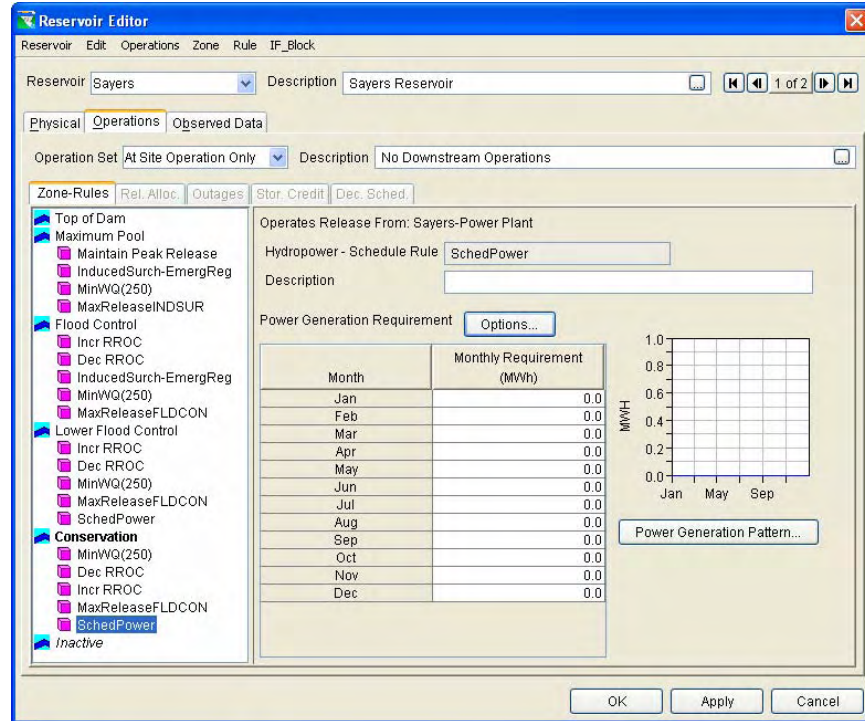

Figure 11.33 Hydropower – Schedule Rule Editor
- Highlight the appropriate rule in the operations tree to access the **Hydropower – Schedule** rule editor (Figure 11.33). The name and description of the rule will appear in the **Hydropower – Schedule** rule and **Description** fields.